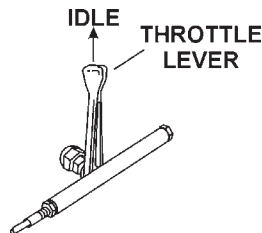

Figure 7. Throttle Lever (Idle)
3. Move the throttle lever to the "IDLE" position (Figure 7).
1. Move throttle lever quickly from the **FULL OPEN** to **IDLE** position (Figure 7) and run the engine for three minutes at low speed.